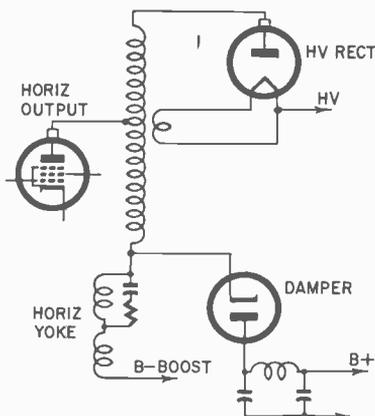

Fig. 808. Direct drive type of horizontal output transformer.
3. The direct-drive circuit uses a simpler flyback that consists of only the plate and high-voltage winding as shown in Fig. 808. The yoke is connected in series at the lower end, back to the damper cathode and the boost voltage. Most of these can be identified by the flyback, which does not